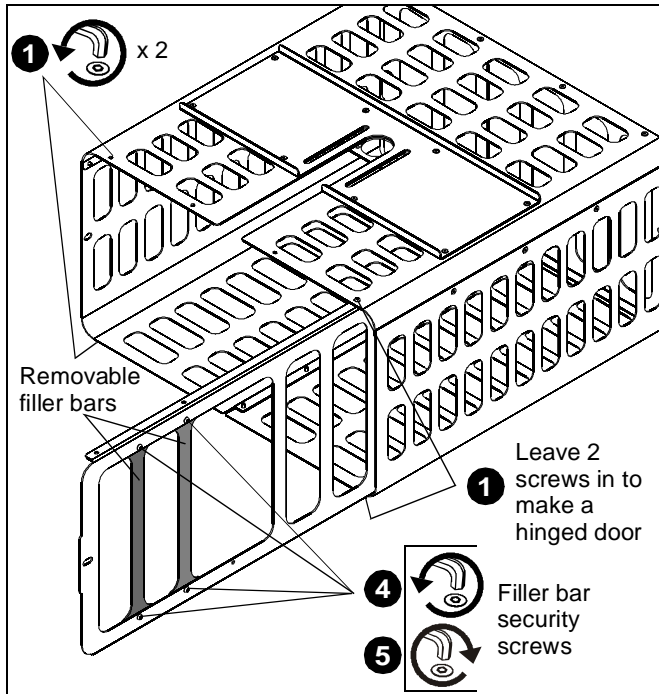

Figure 5
1. Remove and keep the two security screws from the top and bottom of the front (on side that will swing open). Leave the two screws installed on the hinge side of the projector guard. (See Figure 5)